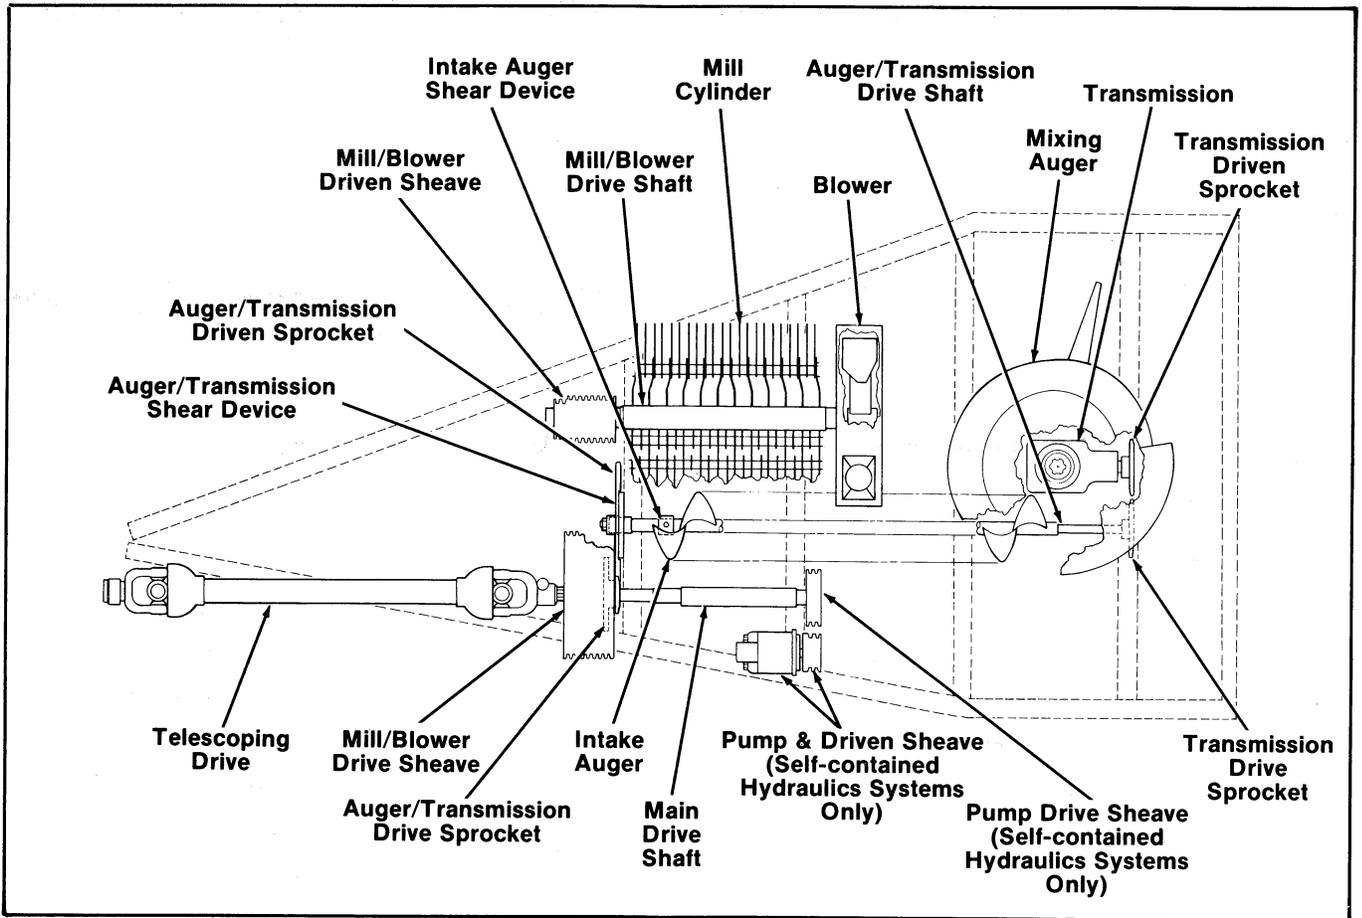

Fig. 6-2: Drive Line Components
**Drive Line Components (Fig. 6-2)**
#### Main Drive (See Fig. 6-2)